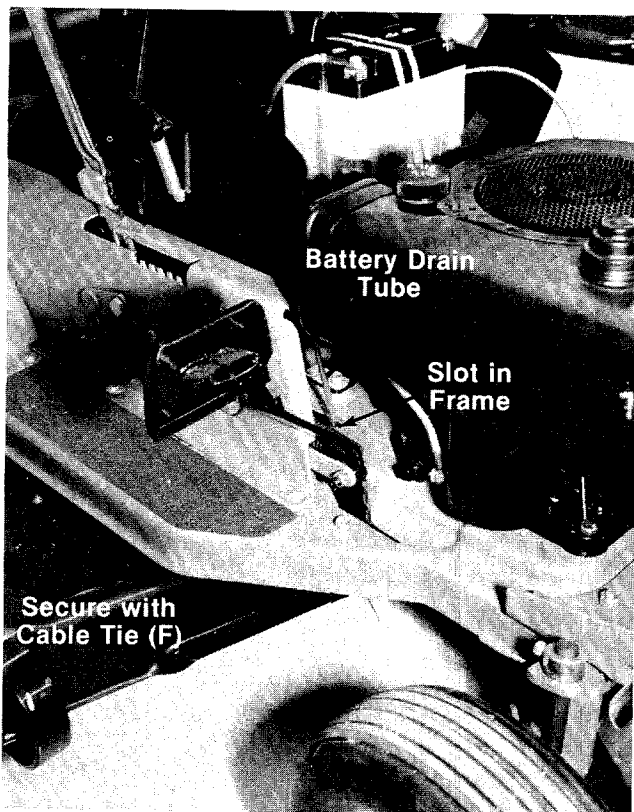

**FIGURE 13.**
13. Slide the square nut (provided with battery hardware) into the positive (+) terminal. Slide the rubber boot back which is on the positive cable. Place the positive (heavy red wire) cable and the small red wire (with a fuse holder in it) on the positive terminal. Secure with screw and lock washer provided. See figure 13.